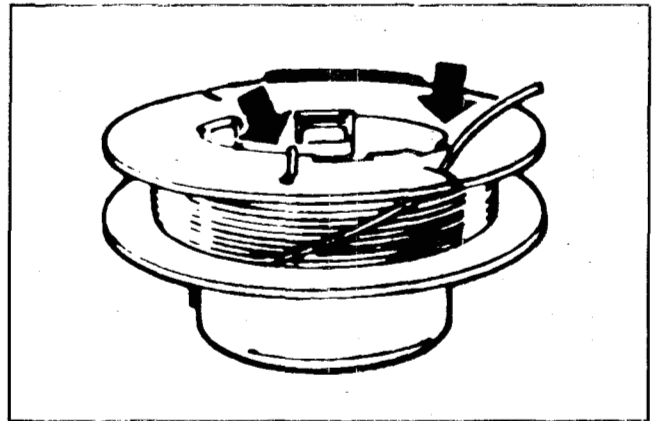

Figure 112
1. To wind replacement line on the spool, first hook one end of the line into the keyhole slot in the top flange of the spool. See Fig. 112.